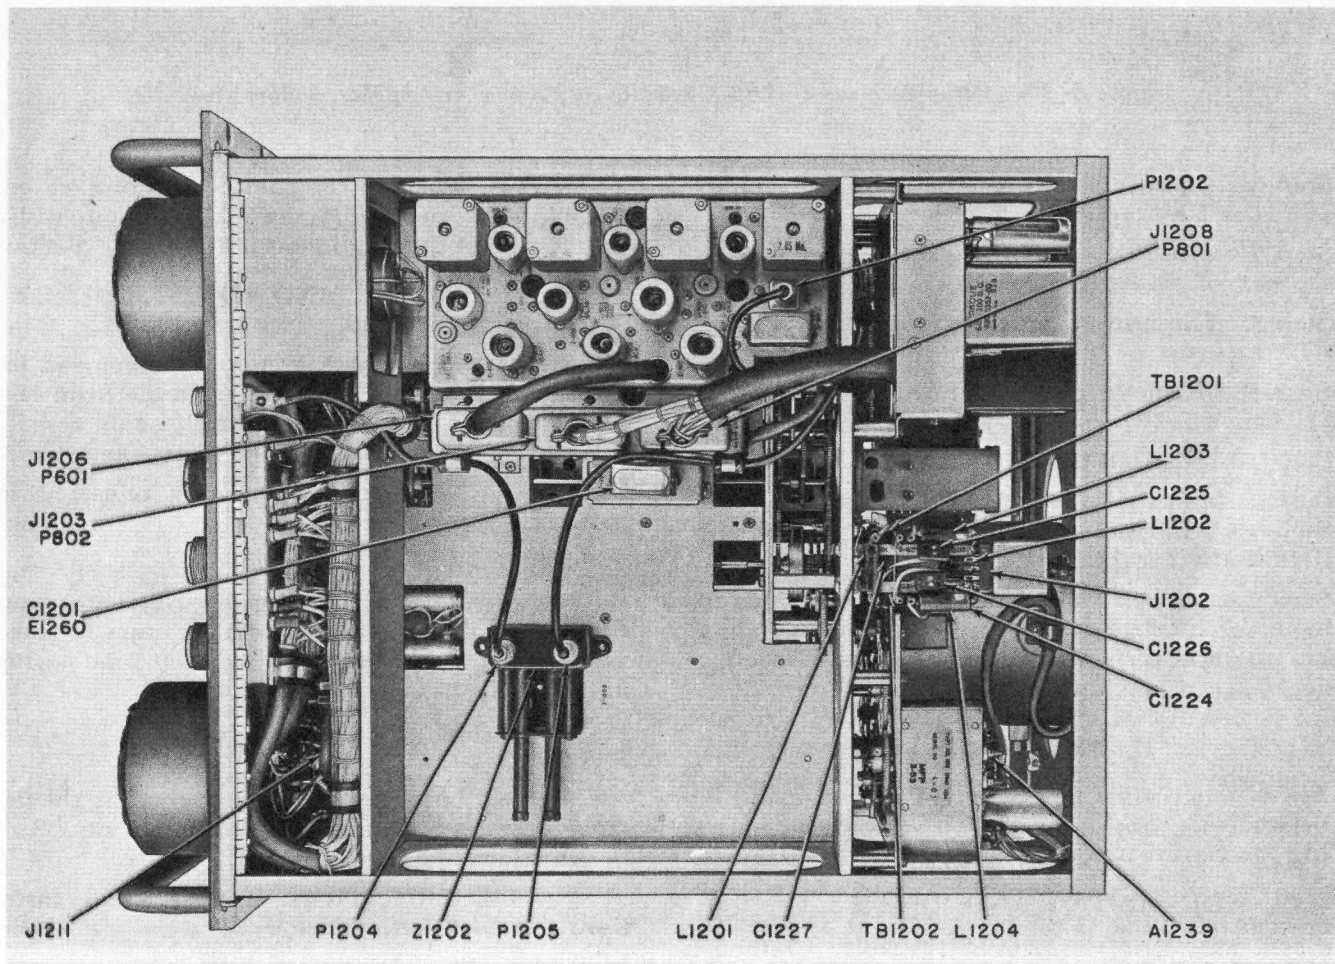

Figure 6-29. Radio Receiver R-278B/GR, Bottom View
Step 5. Remove cable connection P201 from J1202 (figure 6-29).